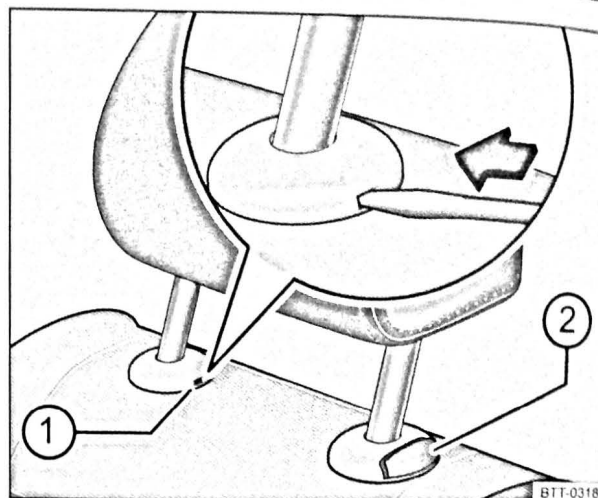

Fig. 49 Removing the rear head restraint
- Insert the unfolded vehicle key bit or the flat edge of the screwdriver from the vehicle toolkit into the slot in the cap  $\Rightarrow$  Fig. 49 ①.